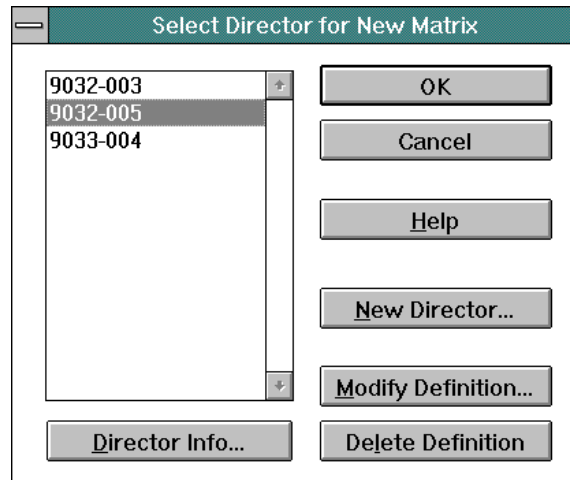

Figure 136. Select Director for New Matrix Dialog Box
2. Select the *New Configuration Matrix* option from the *File* menu. The *Select Director for New Matrix* dialog box appears (Figure 136). The dialog box contains a list of all configured Directors supported by the Console.